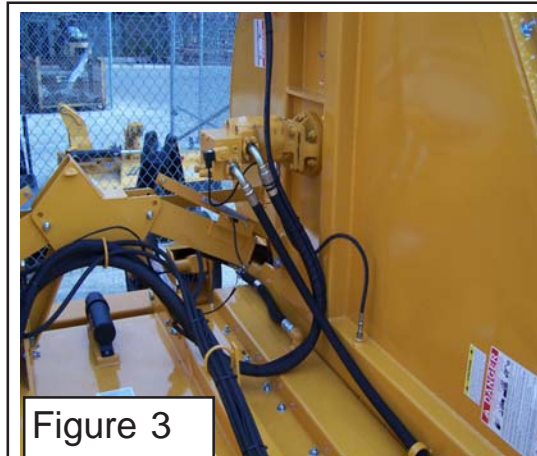

Figure 3
3. Unbolt the hydraulic motor (**figure 3**). Hoses & Motor can be left connected to motor. Remove the bolts attaching the motor to spindle. Lift motor up and off of spindle. Motor can be left sitting on deck with hydraulic lines attached but make certain not to sit motor in debris that may be on deck, keep the motor shaft clean..